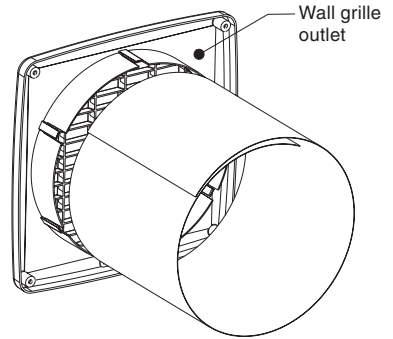

Fig. 6
9. Coil the cut PVC sheet around the Wall Grille Outlet spigot and slide into the retaining clips (Fig. 6).